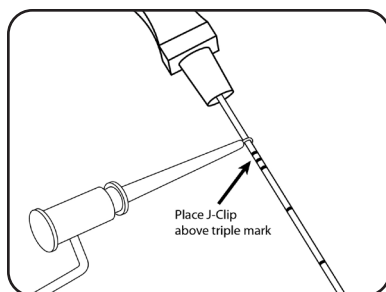

Figure 4. Connect needle test stimulation cable to the foramen needle.
2. Attach the clip end of the needle test stimulation cable to the non-insulated section of the foramen needle (just below hub and above the triple dash mark on the foramen needle) (**Figure 4**).